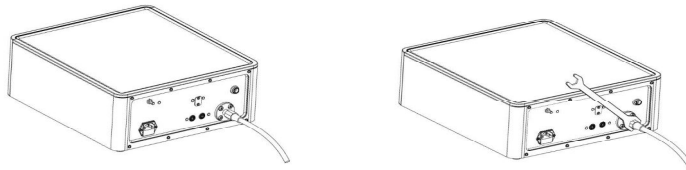

Figure 4-1 Connect the connecting tube of reducing valve and fasten it
1. Connect the connecting tube of reducing valve and the adaptive end of the insufflator with the CO₂ gas inlet of the insufflator. Use a force of about 11.8N.m (1.2kgf.m) to fasten it. As shown in Figure 4-1.